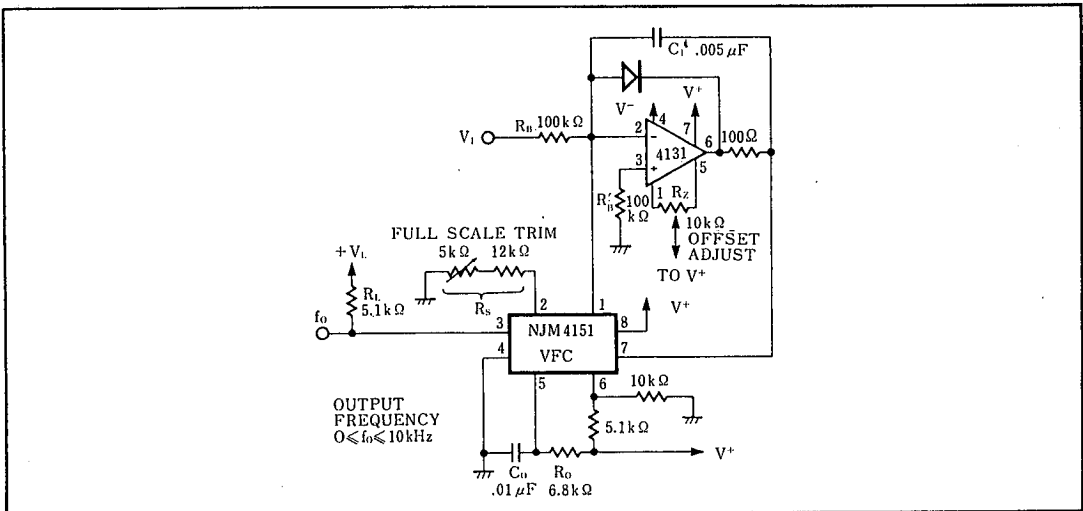

Figure 4. Precision Voltage-to-Frequency Converter
In this application (Figure 4) the 4151 VFC is used with an operational amplifier integrator to provide typical linearity of 0.05% over the range of 0 to -10V. Offset is adjustable to zero. Unlike many VFC designs which lose linearity below 10mV, this circuit retains linearity over the full range of input voltage, all the way to 0V.
1. Set $R_s=14\text{k}\Omega$ or use a $12\text{k}\Omega$ resistor and $5\text{k}\Omega$ pot as shown in the figures. (The only exception to this is Figure 4.)
- b) For the precision mode circuit of Figure 4, set $R_B=V_{10}/100\mu\text{A}$ where V_{10} is the full scale input voltage. Alternately the op-amp inverting input (summing node) can be used as a current input with full scale input current $I_{10}=-100\mu\text{A}$.
- I. Design a precision VFC (from Figure 4) with $f_0=100\text{kHz}$ and $V_{10}=-10\text{V}$.